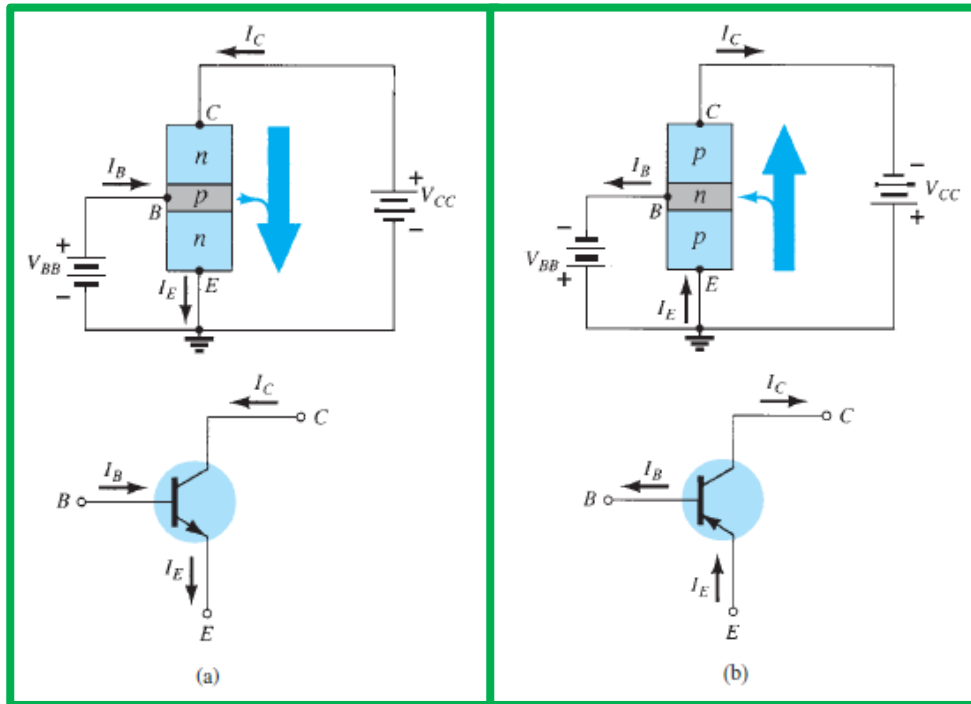

Figure 9:
- ❑ Notice that applying Kirchhoff's current law to Fig. 9 yields, $I_E = I_C + I_B$ and $I_C = \alpha I_E$, like was found in the common-base configuration.